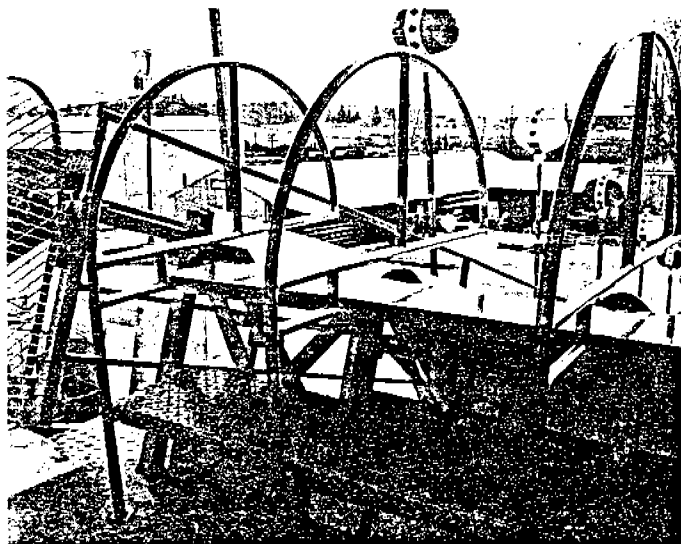

Fig. 21
b. Working from the upper platform, install the starting gates in the sockets located under the step and the starting deck. (Fig. 21)